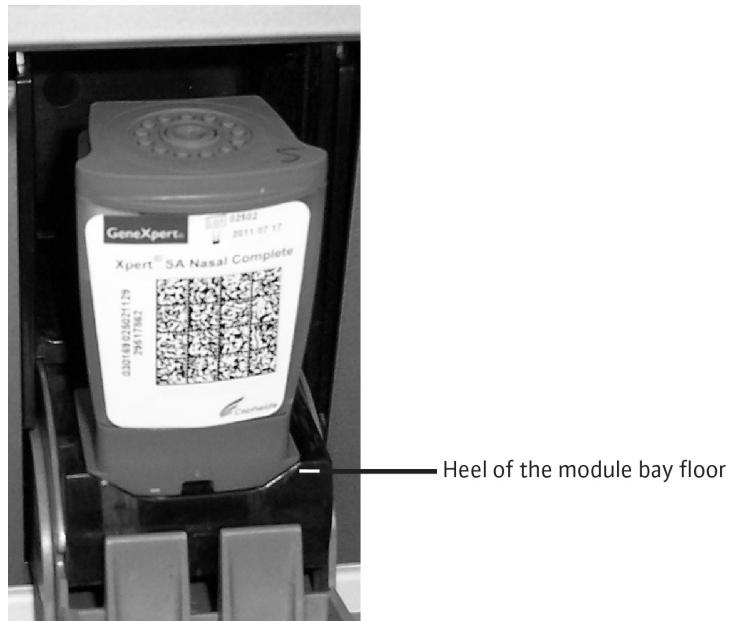

Figure 5-19. GeneXpert cartridge, positioned at the heel of the module bay floor
4. Place the cartridge on the module bay floor (Figure 5-19). The cartridge label should face out. Make sure the cartridge sits level on the bay floor and is positioned at the heel of the bay.